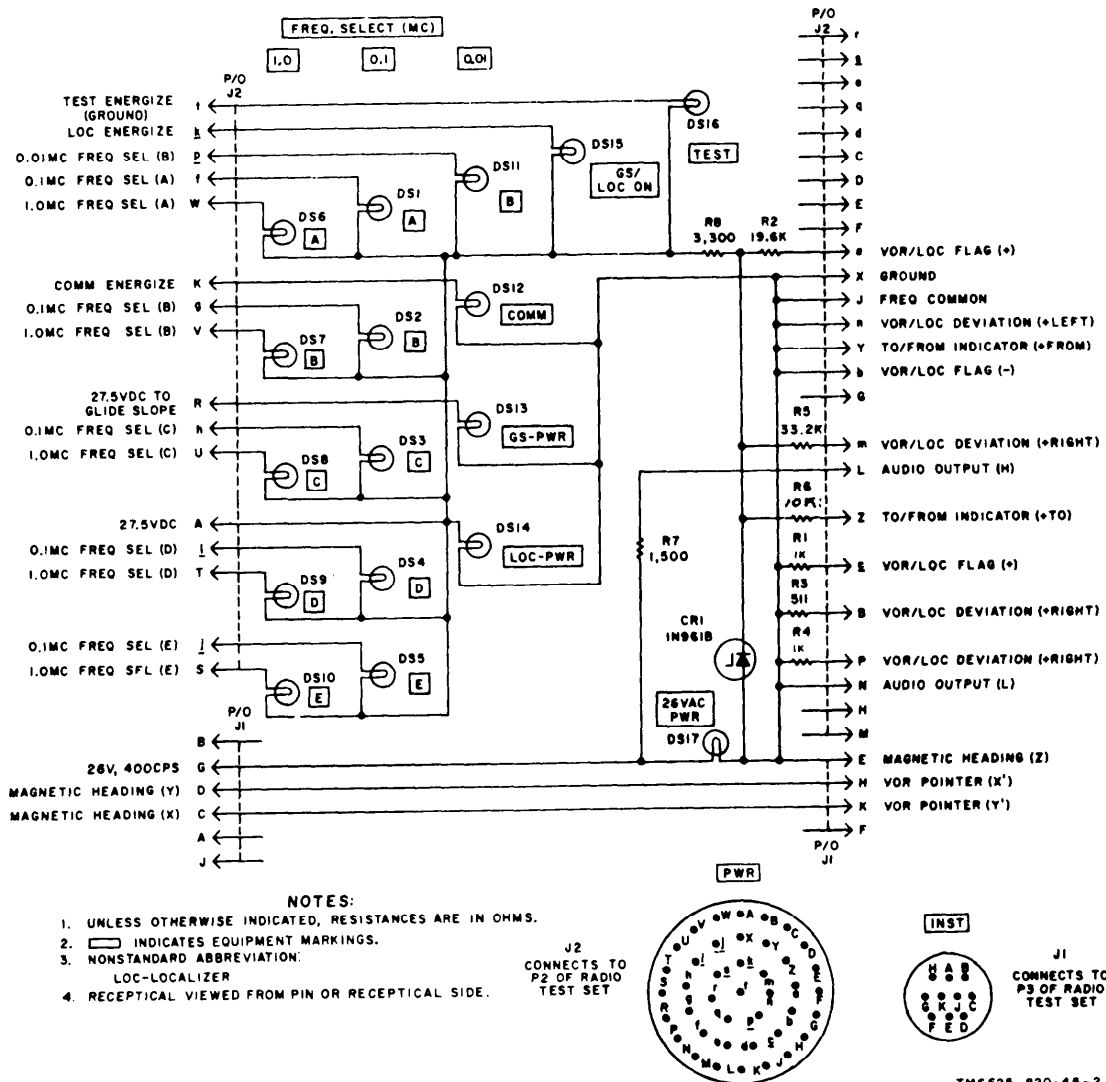

Figure 1-5. Test Set, Wiring Harness, Aircraft TS-2501/ARM-92, schematic diagram.
(fig. 1-5)
g. All other circuits in the aid box may be checked by using the resistance chart in paragraph 2-6. Remove all equipment connected to the aid box before attempting resistance measurements. When an improper resistance reading is obtained, refer to the schematic diagram in figure 1-5 to isolate the trouble.